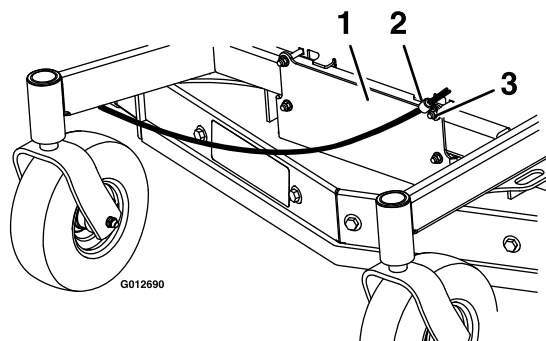

Figure 13
- H. Remove the nut from the front panel guard, install the loom clip, and replace nut as shown in Figure 13.